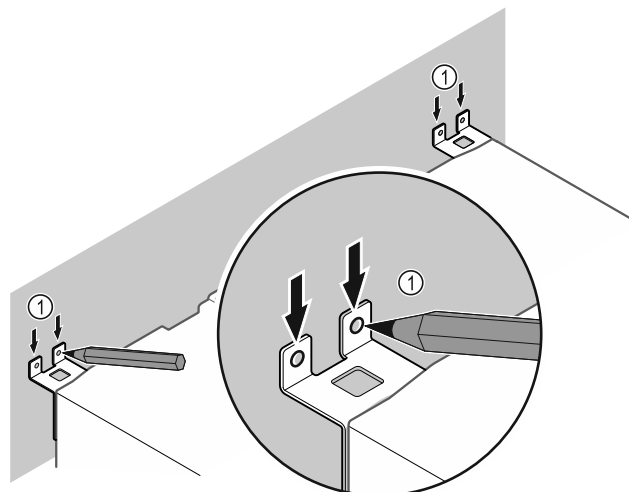

Fig. 13
- Make markings on the wall Fig. 13 (1).